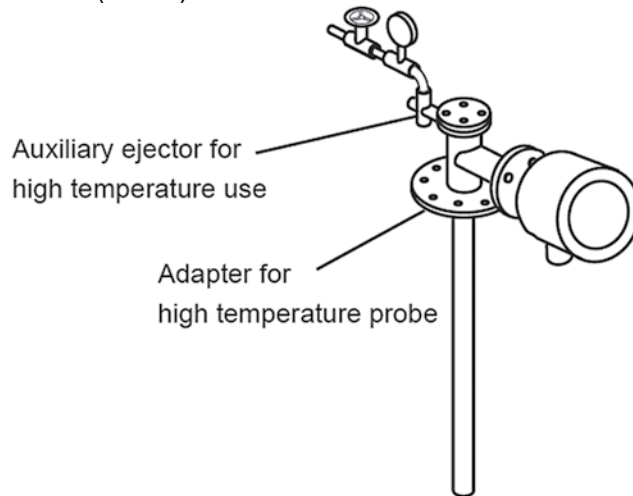

Figure 5.1 Mounting the Auxiliary Eductor
- If the measured gas is under negative pressure, connect the auxiliary eductor as illustrated in Figure 5.1. Mount the pressure gauge as close as possible to the auxiliary eductor. However, if the ambient temperature is too high, mount the gauge in a location with an ambient temperature below 40°C (104 °F).